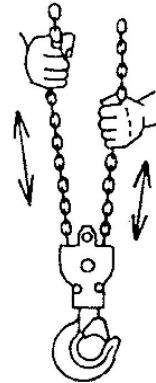

Fig. 14
- (2) Keep Load chain clean and well lubricated.
- (3) Check Load hook is not stretched or damaged and hook latch is in the normal position.
- (4) Check the Chain wheel in bottom hook block operates smoothly (Fig. 14).
- (5) Check the support bearing of bottom hook is not damaged, and rotates easily and smoothly.
- (6) Check the trolley wheels track on the rails properly and the wheels and rails are not worn.
- (7) Check the lifting sling is not damaged or worn and properly engaged into the bottom hook.